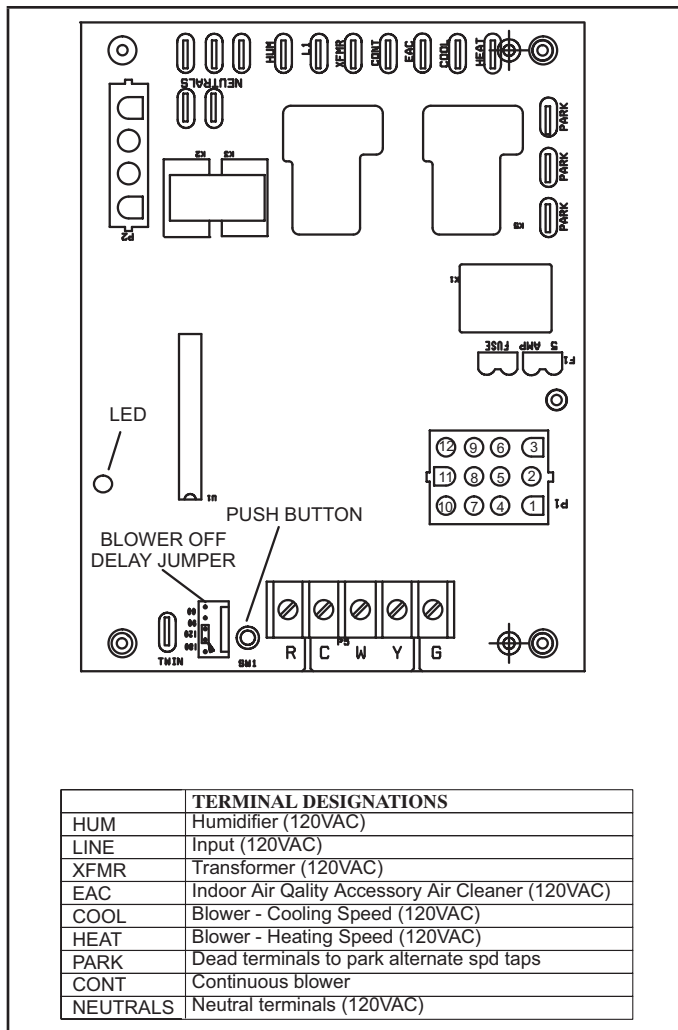

FIGURE 2
- 5 - Insert the provided 6" loose white wire into position 2 on the 12-pin connector, and then splice to the white/red flame sense wire in the furnace. Cut wire terminal, strip wires, and join with wire nut as appropriate. Refer to figure 2 for pin location. Connect 12-pin connector to the replacement control.